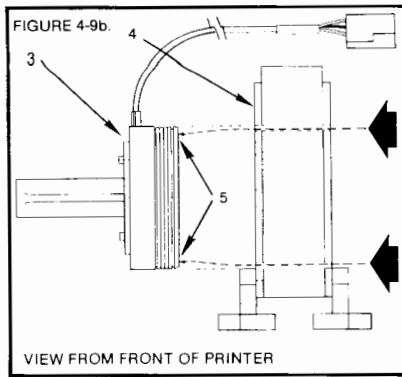

Figure 12.
- g. Ease the magnet assembly toward the drive coil and tip the magnet back slightly so that the tips of the bottom shims slide inside the inner diameter of the coil form. Figure 12 shows how the shims should be guided inside the drive coil.